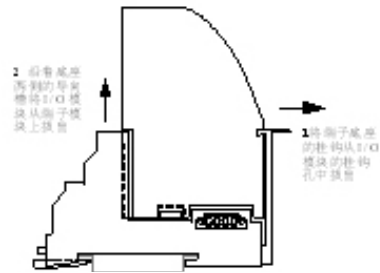

Figure 2-48 I/O Disassembly
2. Pull the module from the base as in Figure 2-48.